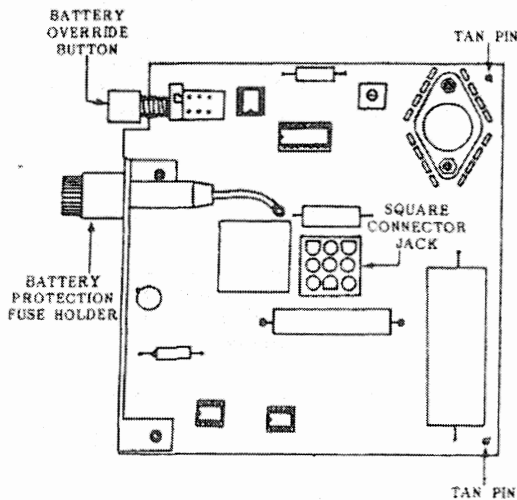

FIGURE 7
02.02 The Power Battery Back-up Assembly (PBBU) in Figure 7 is an optional PCB which may be installed in the EPSA 104 to interface with two auxiliary 12V batteries. In the event of an electrical power failure, the PBBU provides an automatic battery power source, permitting a typical STRATA VI system to continue normal operations for up to 12 hours.
- The "Battery Override" switch (Figures 7 and 8) is placed in the ON position, or...